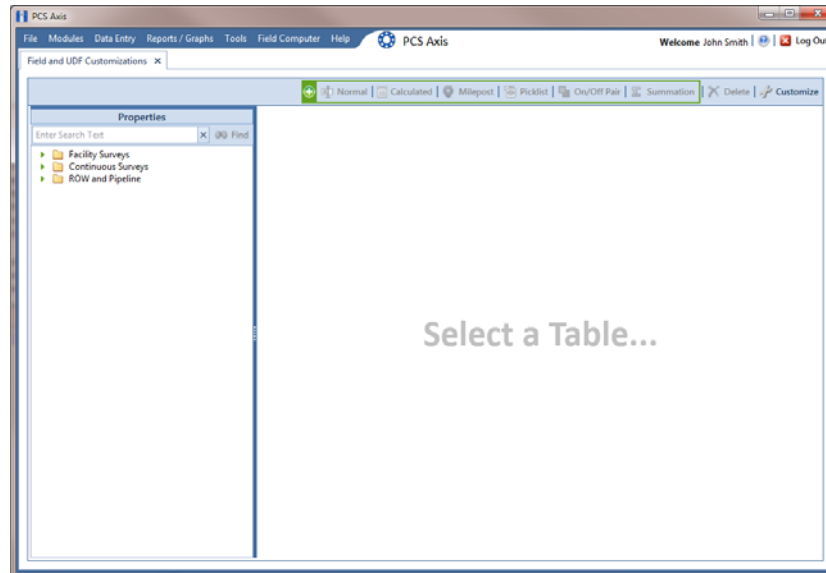

Figure 3-29. Field and UDF Customizations
- 1 Click **Tools > Field and UDF Customizations** to open the *Field and UDF Customizations* window (Figure 3-29).
- 1 Click **Tools > Field and UDF Customizations** to open the *Field and UDF Customizations* window (Figure 3-29, page 72).
- 1 If the *Field and UDF Customizations* window is not open, click **Tools > Field and UDF Customizations** (Figure 3-29, page 72).